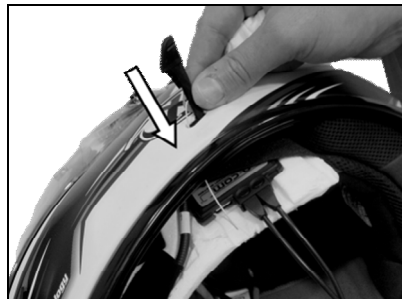

Fig. 38
- Bring the antenna inside the helmet, passing it through the hole in the helmet shell. (Fig. 38).